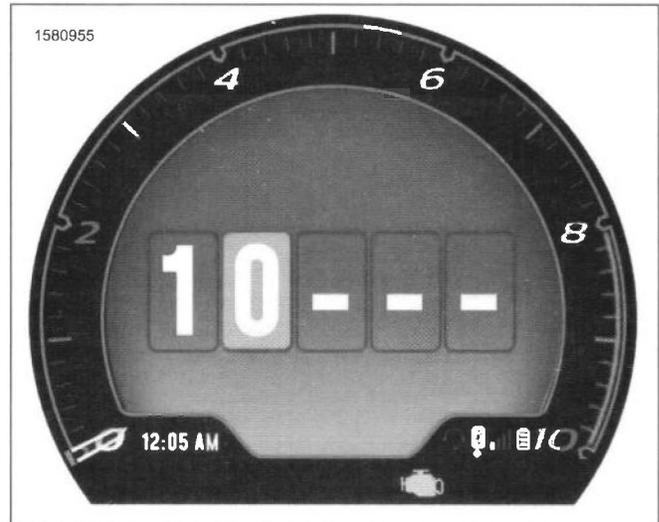

Figure 8-53. Moving Cursor to Next Digit
2. See Figure 8-53. Select the next digit.